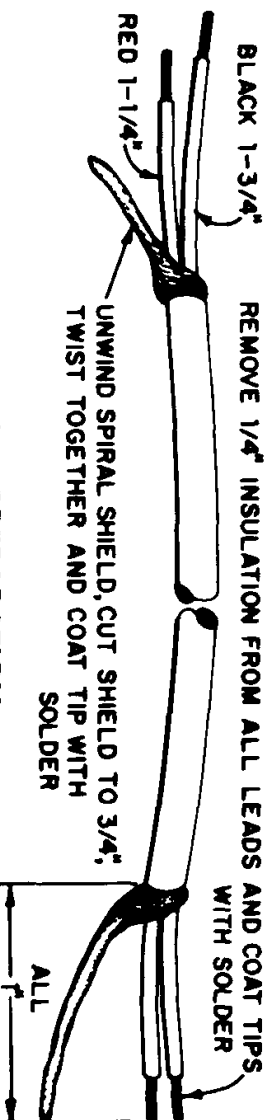

FIGURE 2. CABLE PREPARATION
- ☒ Prepare the ends of the cable as shown in Figure 2. Connect the end of the cable having the longest shield lead as follows: